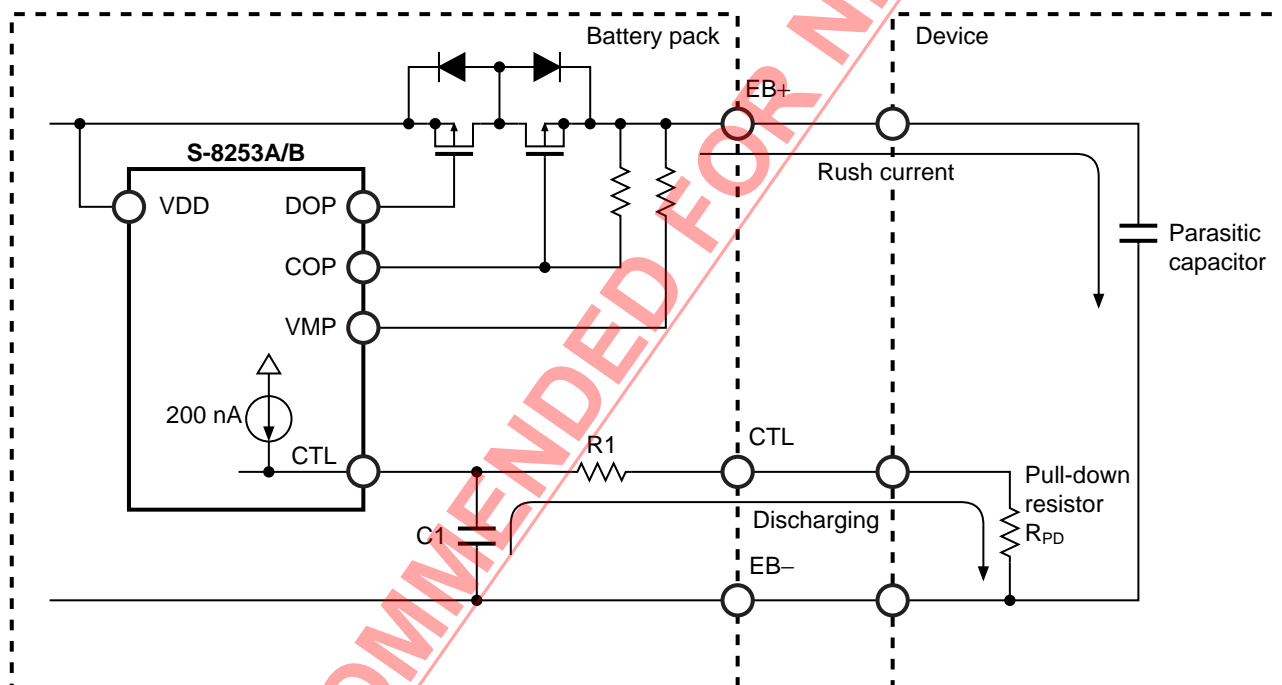

Figure 15
- In case of designing a circuit by using the CTL pin, as seen in **Figure 15**, note that discharging may stop during connecting a battery pack and the device.
As seen in **Figure 15**, before a battery pack is connected to the device, the battery pack may be in the charge / discharge inhibited status in which the CTL pin is internally pulled-up. From this status, if connecting the battery pack to the device, the CTL pin will be pulled-down in a time-constant  $C1 \times (R1 + R_{PD})$  by a pull-down resistor in the device. If the CTL's potential reaches  $V_{CTLH} < V_{CTL} < V_{CTLL}$ , the battery pack goes in the delay time-shortening status so that it releases charging and discharging, hence it starts charging a parasitic capacitor in the device. In this case, if the rush current, which makes the S-8253A/B Series to detect the overcurrent detection voltage 3 ( $V_{IOV3}$ ), flows into the device, the overcurrent detection delay time 3 ( $t_{IOV3} = 300 \mu s$  typ.) will be shortened. So that the battery pack goes in the overcurrent status in several  $10 \mu s$ . However, the battery pack goes in the normal status by connecting the device to the charger.